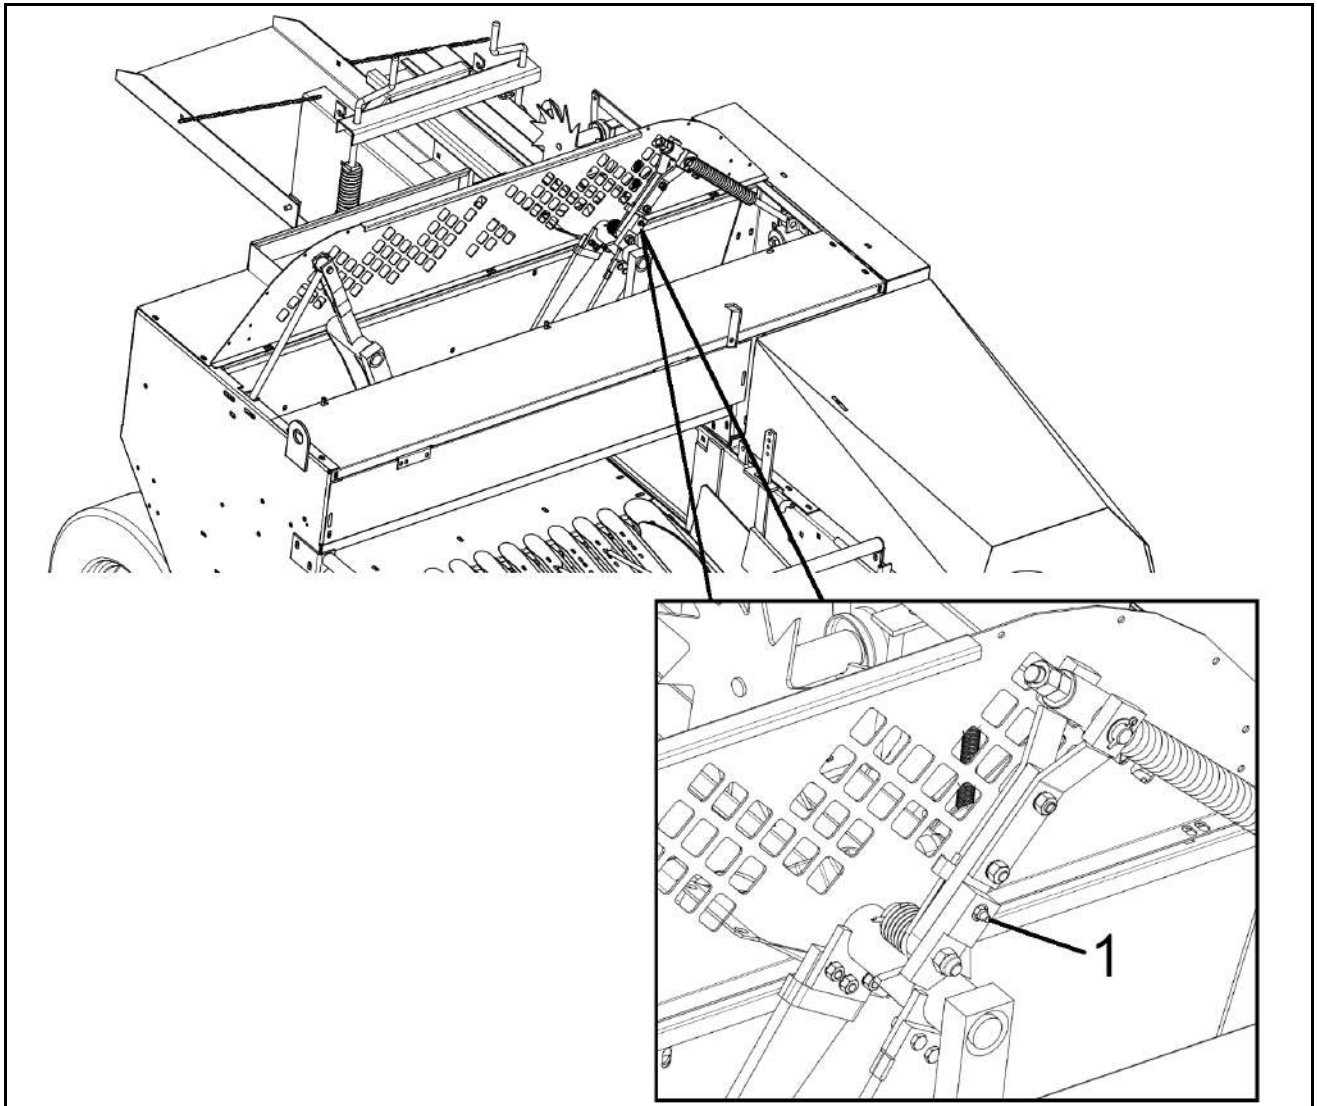

Fig. 6.6
Shear bolt M6x50 mm, class 8.8 with self-locking nut (ref. 1, Fig. 6.6).